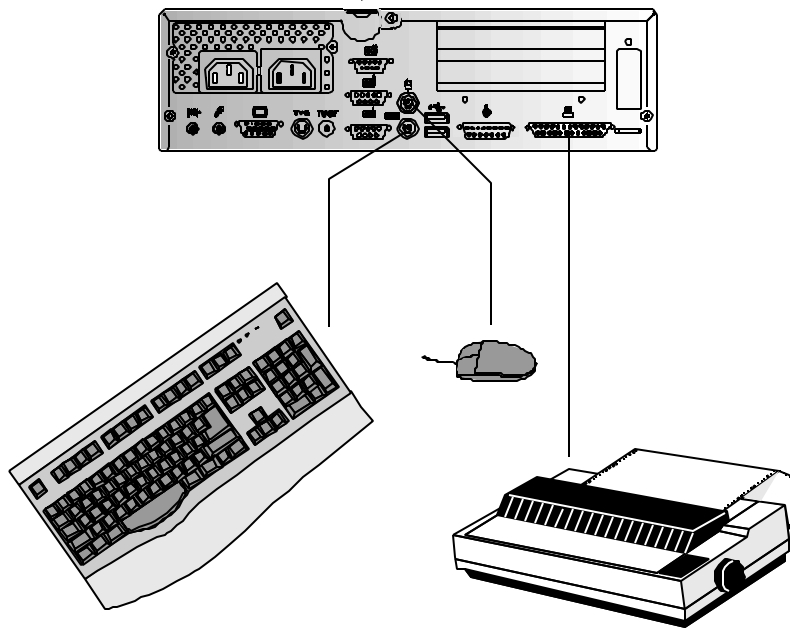

Figure 2-1: Connecting a Keyboard, Mouse, and Printer to the Computer
The system features an enhanced keyboard with a spill resistant membrane and tactile feedback. Before turning on the computer you need to connect the keyboard to the keyboard port. Follow the instructions listed below and refer to Figure 2-1 for information on connecting the keyboard to the computer.
2. Refer to Figure 2-1 to locate the keyboard port at the back of the computer.
The system is packaged with a two-button mouse. All Windows applications and many DOS programs employ the mouse as a pointing device. Follow the instructions listed below and refer to Figure 2-1 for information on connecting the mouse to your computer.
2. Refer to Figure 2-1 to locate the mouse port at the back of the computer.
Most computer users have a printer connected to the parallel port. To connect a printer to the computer, follow these steps and refer to Figure 2-1: